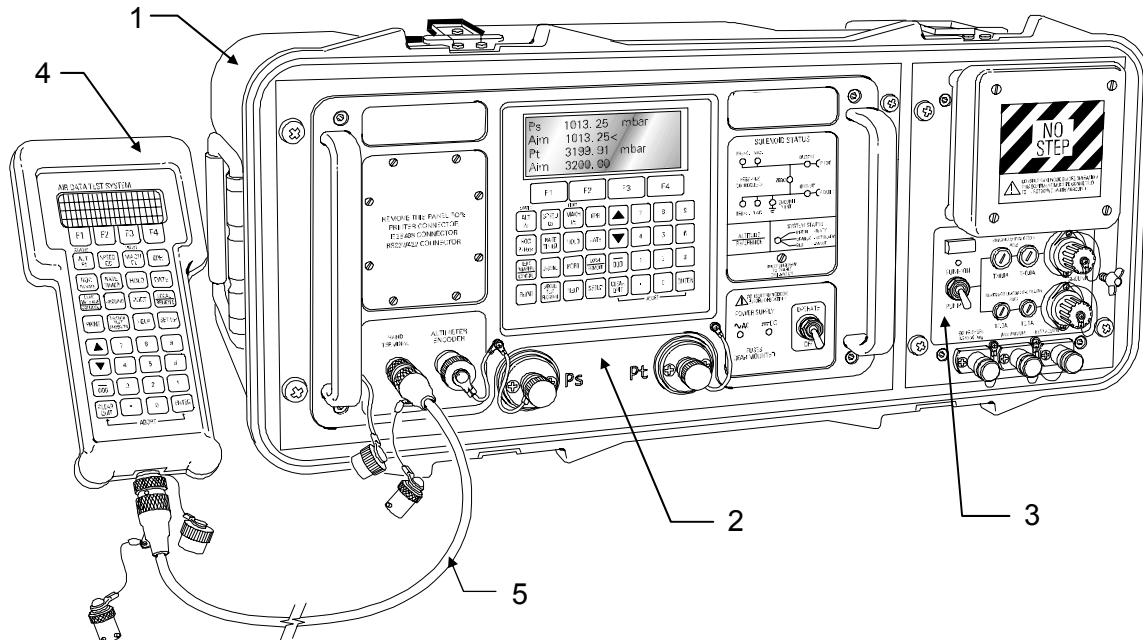

Figure 3 DPS500 Automated Flightline Air Data Test Set
The Barfield line of Automated Digital Air Data Testers comes in two versions. The DPS500 Flightline Digital Air Data Test Set (Fig. 3, page. 4) and the DPS501 Dual Channel Controller (Fig. 4, page 6). The DPS500/501 testers were developed to meet the aviation industry increasing standards such as those currently being recommended by the FAA for Reduced Vertical Separation Minimum (RVSM) certified aircraft traveling across the North Atlantic and the also need for reducing maintenance costs.
A. DPS500 FLIGHTLINE AIR DATA TEST SET (Fig. 3).
Note: The AC configuration shown here, differs from the AC/DC arrangement of Fig 3.